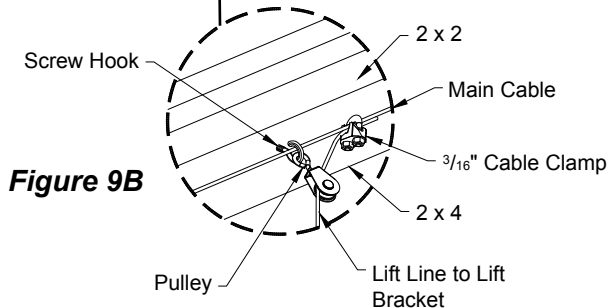

Figure 9B
- 6) Actuator should be in the 'open door' position. Install screw hooks along the frame and 1½" off center of the lift brackets on the top doors, as the doors are installed. The 1½" offset should be towards the actuator machine. If two main cables are used place the screw hooks above the bottom doors also. Attach pulleys to screw hooks, route lift lines to the main cable and attach with cable clamps, **See Figure 9B.** After doors are completely installed the cable clamps will need to be repositioned to act as safety stops.